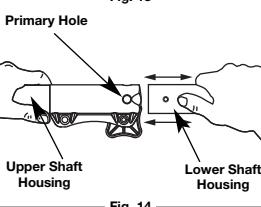

Fig. 14
3. While firmly holding the upper shaft housing, pull the cutting attachment or add-on straight out of the Rapid-Link™ coupler (Fig. 14).
2. While firmly holding the add-on, push it straight into the Rapid-Link™ coupler (Fig. 14).